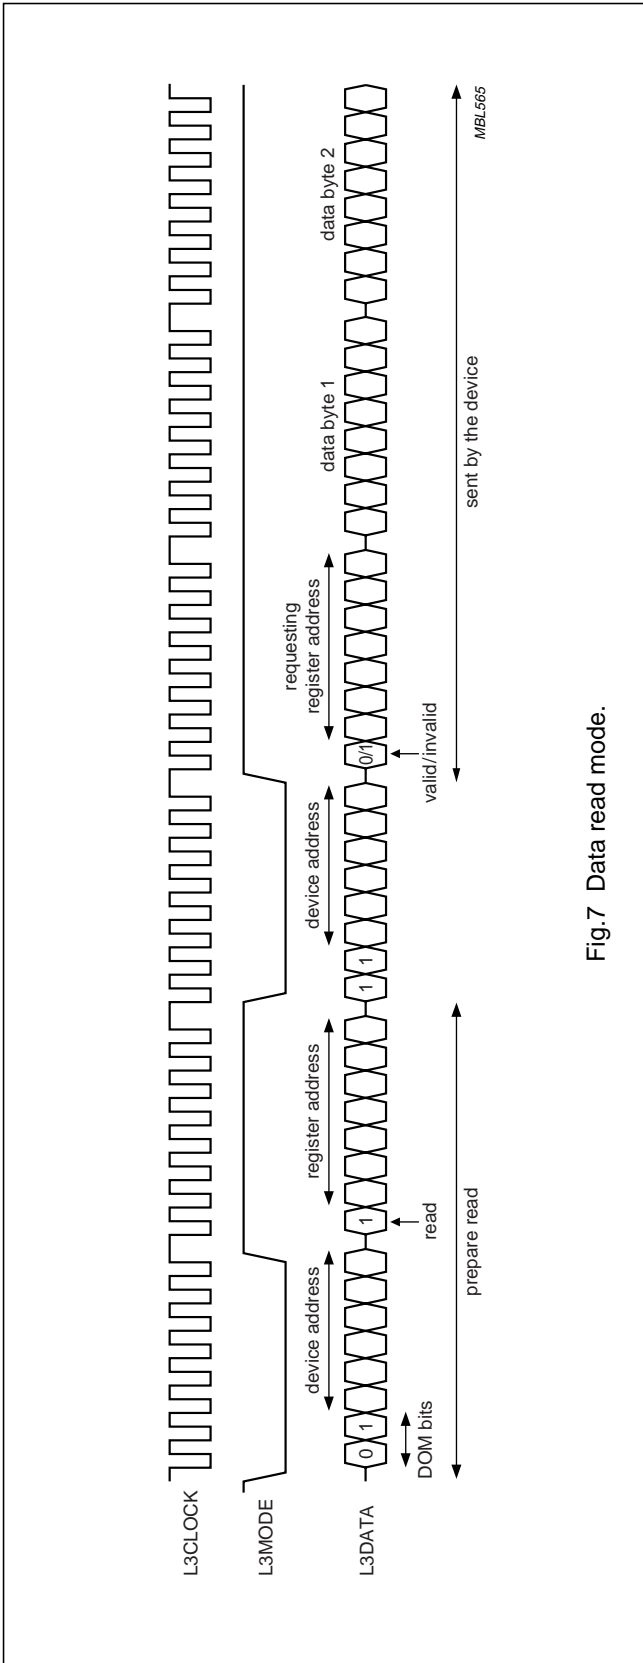

Fig.7 Data read mode.
- To prepare read: bit 0 is logic 1, specifying that data will be read from the device register (see Fig.7)
The data read mode is explained in the signal diagram of Fig.7. To read data from a device requires a prepare read followed by a data read. Six bytes are used, (see Table 8):